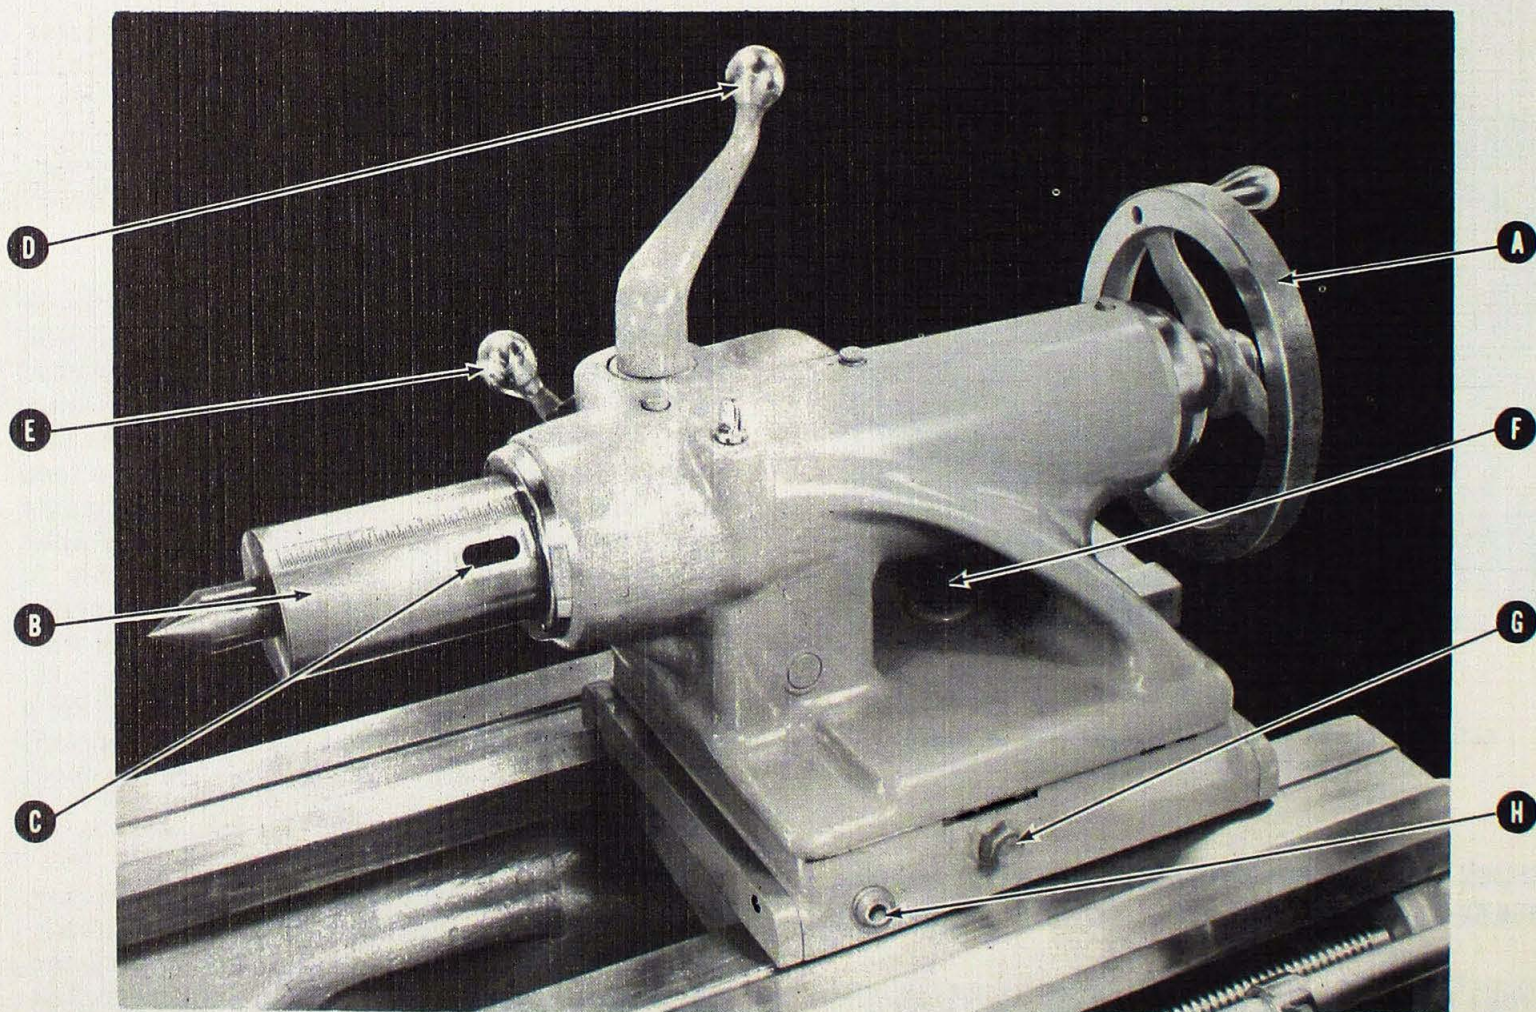

FIGURE 9 — Quick Acting Type Tailstock Supplied on Series 61 Toolmakers' Lathes.
Tailstock handwheel (A), Figure 9, is used to traverse or feed spindle (B) in or out. To permit accurate drilling to depth spindle (B) is graduated in inches. Tang slot (C) facilitates the removal of drills and reamers from the taper center hole. To remove the center, crank the spindle back into the tailstock until the center is automatically ejected.